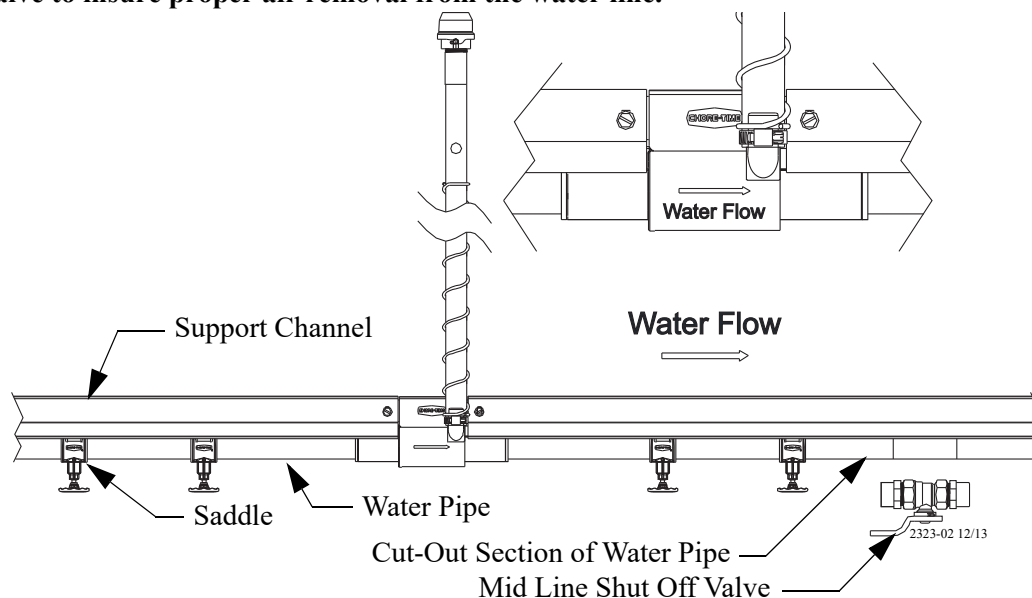

Figure 20. Mid Line Shut-Off Valve Installation
3. Use PVC pipe cutters to cut a section out of the water pipe. See **Figure 20**. The shut-off valve may be used as a template to determine the required size of the cut.